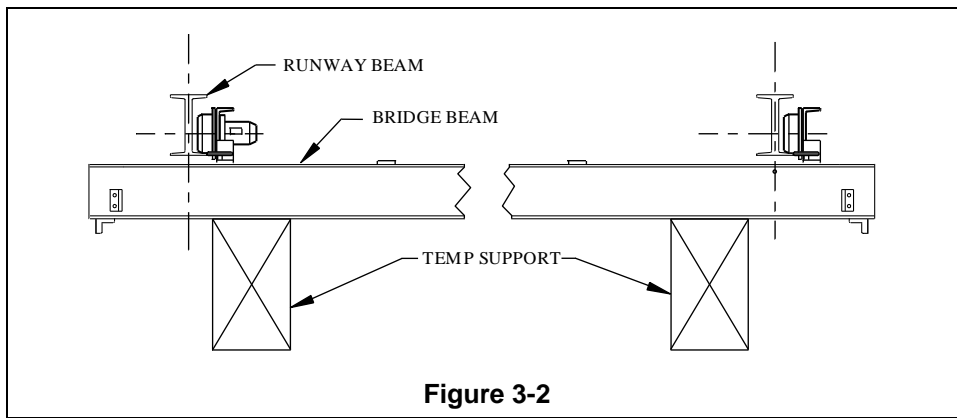

Figure 3-2
- b) Install frame A from one end truck onto the bridge beam, and secure it temporarily (see Figure 3-2). Note: if the end trucks were supplied as part of a Harrington crane system, complete with bridge beam, the end trucks are match-marked to the beam. In this case, ensure that end truck Frame A is installed to its match marked location on the bridge beam.
- c) Install frame B on the crane bridge in the same manner as step (b) above, and secure it temporarily (see Figure 3-2).
3.1.2 Install the bridge beam assembly on to the runways per Figure 3-2. Be sure to use a temporary support method, which ensures that the crane assembly stays safely in the position depicted in Figure 3-2.